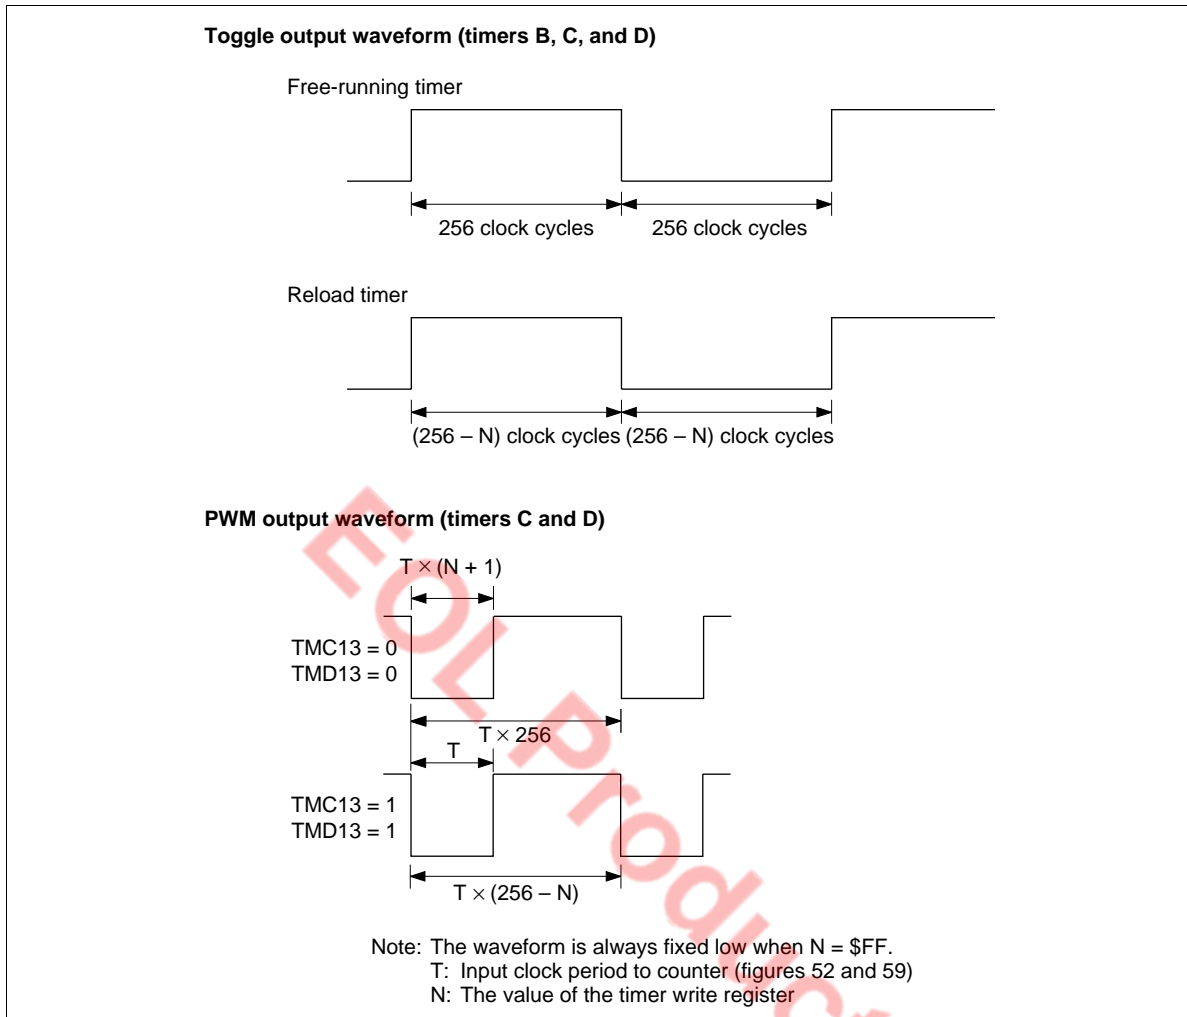

Figure 43 Timer Output Waveform
- Toggle output: When toggle output mode is selected, the output level is inverted if a clock is input after timer B has reached \$FF. By using this function and reload timer function, clock signals can be output at a required frequency for the buzzer. The output waveform is shown in figure 43.
- PWM output: When PWM output mode is selected, timer C provides the variable-duty pulse output function. The output waveform differs depending on the contents of timer mode register C1 (TMC1: \$00D) and timer write register C (TWCL: \$00E, TWCU: \$00F). The output waveform is shown in figure 43.